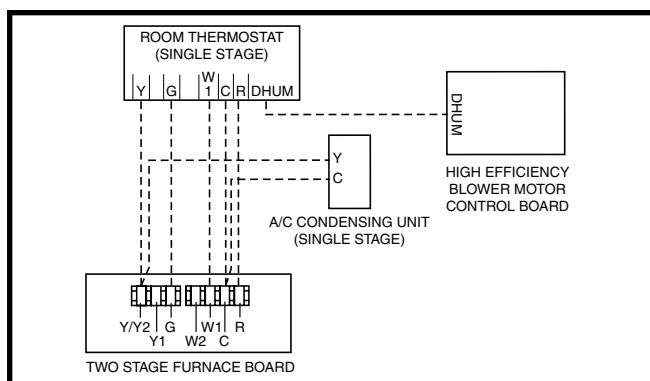
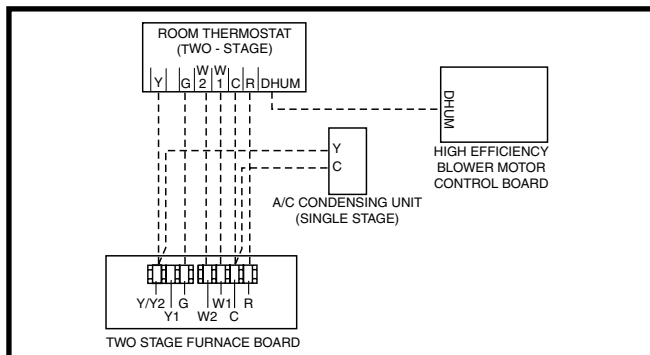
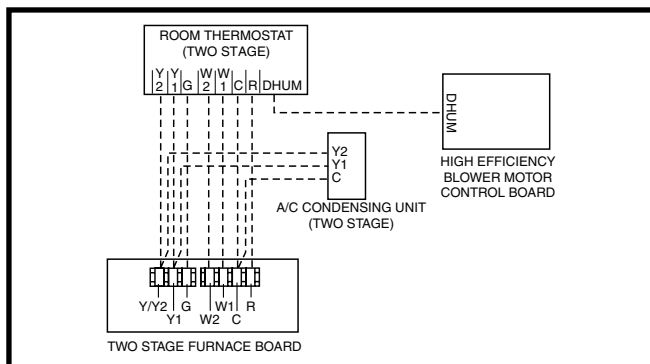

Figure 17. Wiring Configuration 1
Figure 18. Wiring Configuration 2
Figure 19. Wiring Configuration 3
- Connect the thermostat's **W** output to the furnace control boards **W1** terminal. This allows the furnace to always run in low output mode. See Figure 17.
This option uses the full two stage heating capability of the furnace with a single stage outdoor unit. See Figure 18.
This option uses the full two stage heating capability of the furnace with a two stage outdoor unit. See Figure 19.
then stage up to **HIGH** fire, until the heating load is met. See Figure 17 and the Low Voltage Connection section on page 21.
- ✓ Verify that all needed thermostat wires are securely connected to the correct leads on the terminal strip of the circuit board. See Figure 17 \(page 21\), Figure 18 \(page 21\), & Figure 19 \(page 21\).
The operating sequences for the heating, cooling, and fan modes are described below. Refer to the field and furnace wiring diagrams: Figure 16 \(page 20\), Figure 17 \(page 21\), Figure 18 \(page 21\), Figure 19 \(page 21\) & Figure 26 \(page 31\).